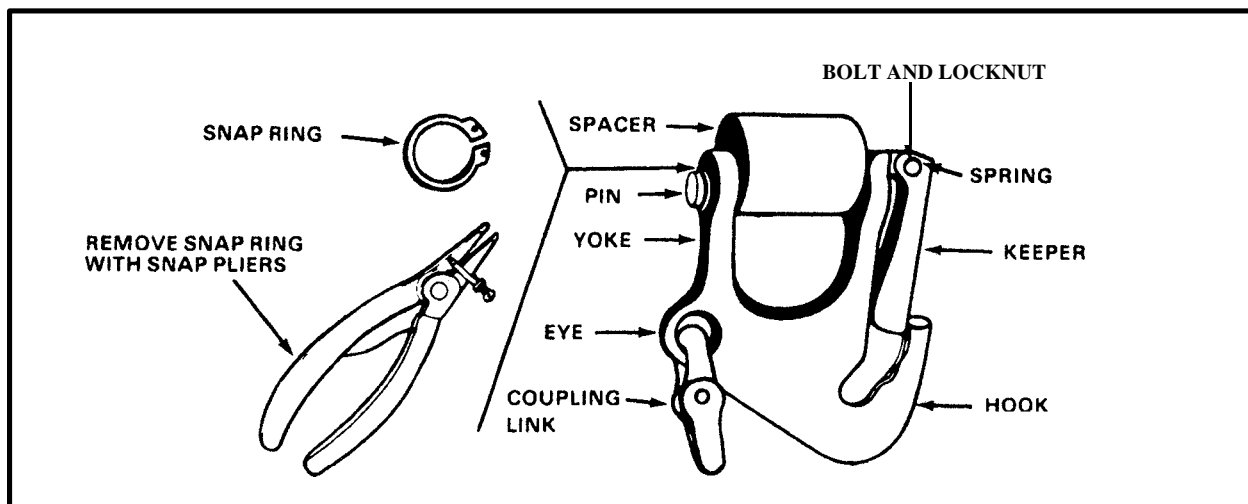

Figure 6-7. Grabhook Assembly
**c. Grabhook Assembly.** The grabhook assembly (Figure 6-7) is attached to the lower eye of the nylon rope and attaches the nylon rope assembly to the chain. It is used to adjust the chain length. The upper part of the grabhook (the yoke) contains a pin and spacer that are used to attach the nylon rope to the grabhook. A snap ring holds the pin in place. The spacer provides a large diameter surface for the eye of the nylon rope. The bottom part of the grabhook has an eye at one side. The attached coupling link connects the chain to the grabhook assembly. Opposite the eye is a hook into which any selected chain link is inserted to vary the length of